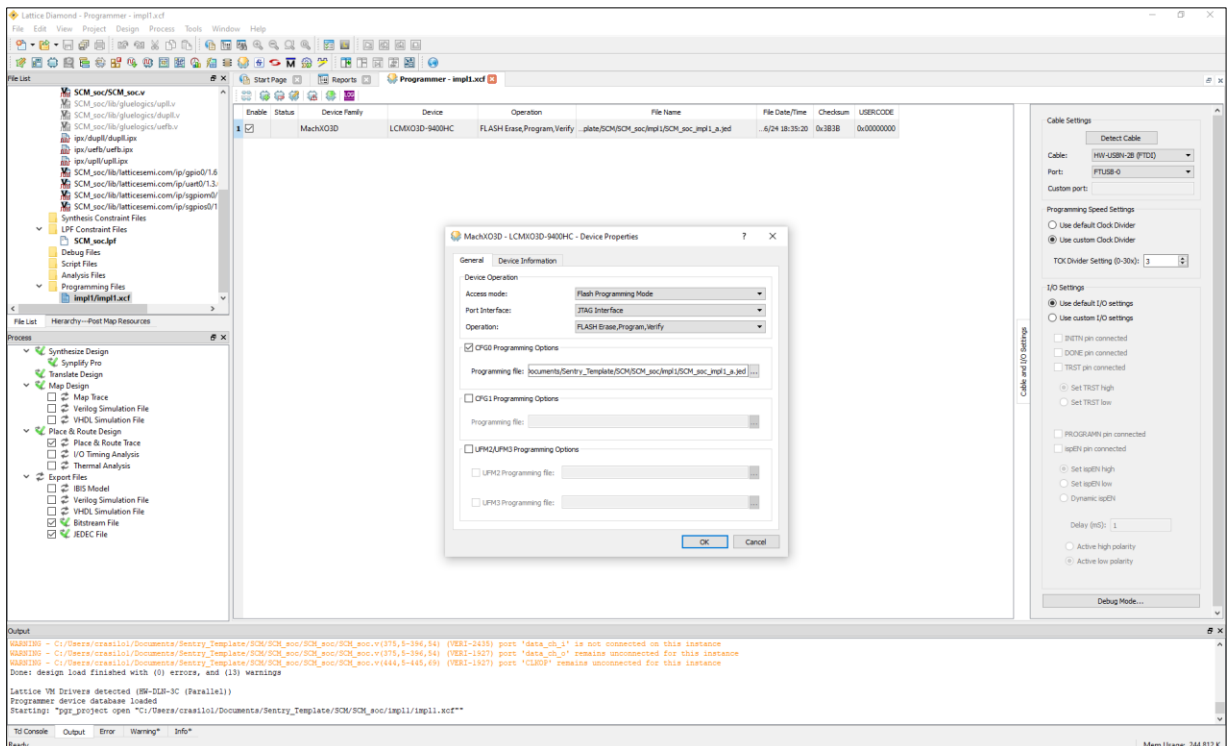
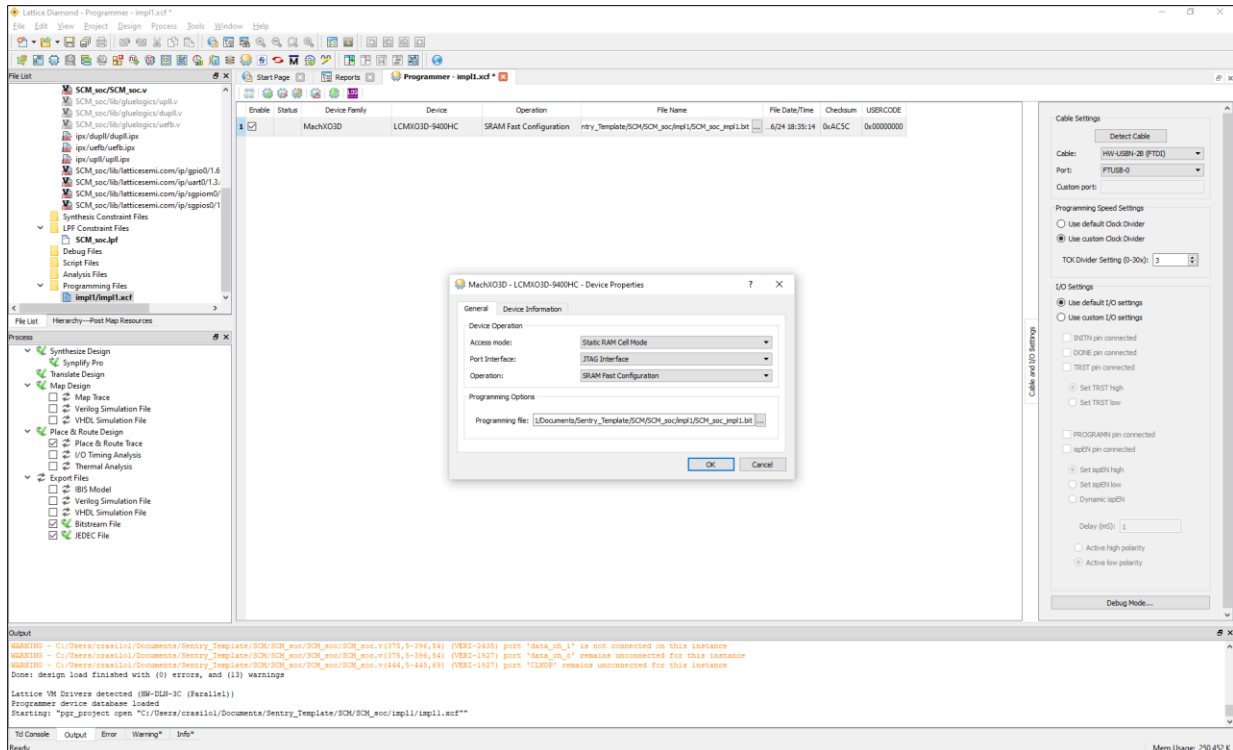

Figure 5.6. JED File Upload Using Flash Programming Mode (SCM)
Figure 5.7. BIT File Upload Using Static RAM Cell Mode (SCM)
- Using Diamond Programmer, upload either the JED or BIT file using either Flash Programming Mode or Static RAM Cell Mode, as shown in Figure 5.6 and Figure 5.7 respectively. Note that the template comes with a pre-exported JED and BIT files. If any changes are made in the design, it is recommended that you export a new JED or BIT file.